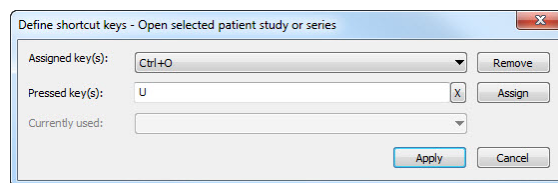

Figure 63 – Define shortcut keys dialog
3. The **Define shortcut keys** dialog will be displayed (see Figure 63). Then press the key combination for your shortcut. The pressed keys will appear in the **Pressed key(s)** box.